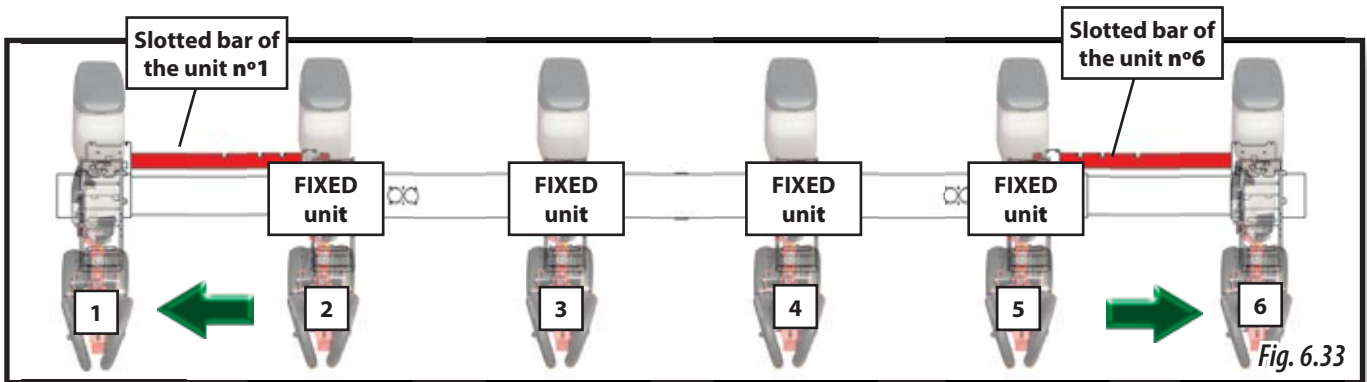

Fig. 6.33
- 2 units, one at each frame's end, in machines with SIMPLE TELESCOPIC FRAME (Fig. 6.33).